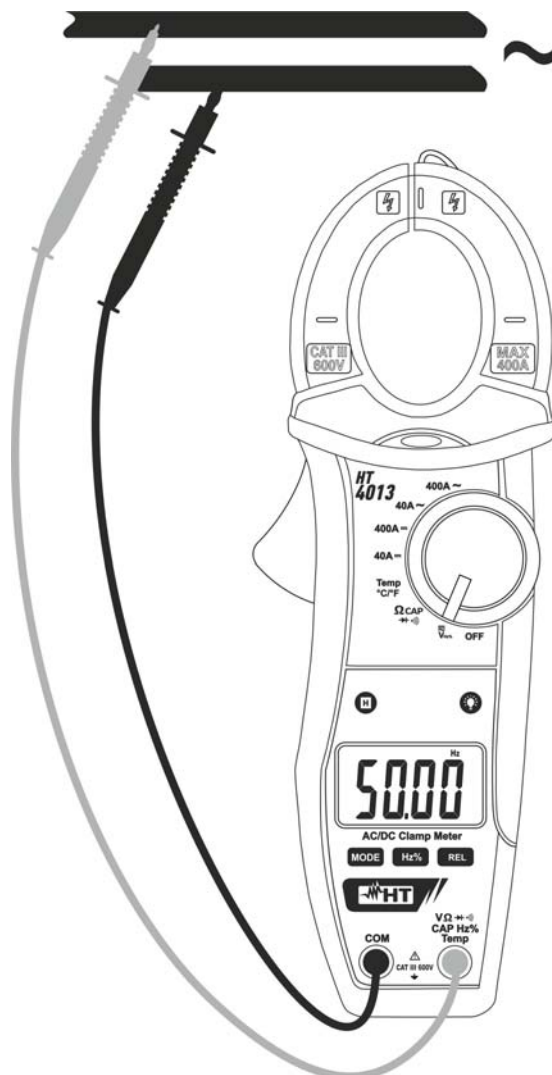

Fig. 5: Use of the clamp for frequency measurement and duty cycle
4. Position the test leads in the desired points of the circuit to be measured (see Fig. 5) The value of frequency (Hz) or of duty cycle (%) is shown on the display.